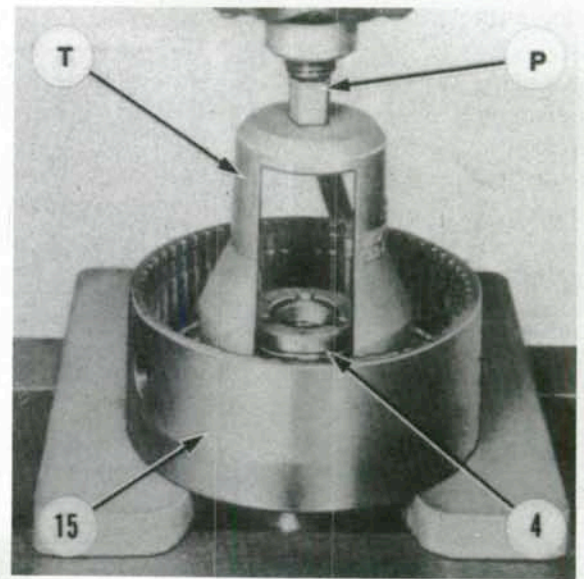

Fig. 259—Use Ford tool No. 1312, or other suitable horseshoe shaped tool, to compress piston return spring so snap ring (4) can be removed.
Using Ford tool No. 1312, or other horseshoe shaped tool, compress piston return spring as shown in Fig. 259 and remove retaining ring (4). Release spring pressure and remove spring retainer (5—Fig. 258) and piston return spring (11). Apply compressed air to port between front and center seal ring grooves in clutch housing hub to unseat piston (13) from housing.
Lubricate all parts with hydraulic fluid before reassembly. Install new seal rings (12 and 14) in clutch piston. Carefully install piston in clutch housing and secure with retainer and snap ring after compressing clutch spring as shown in Fig. 259.